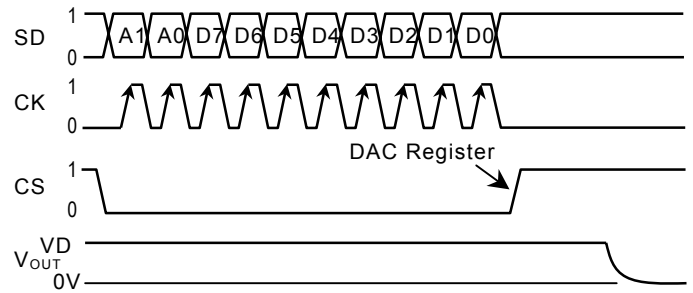
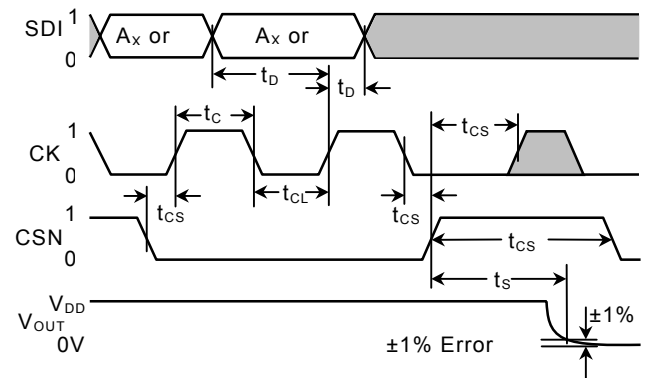

Figure 2: Timing Diagram
Figure 3: Detailed Timing Diagram
Programming of the AS150x is done via the 3 wire serial interface. The three input signals are serial data input (SDI), clock(CK) and chip select (CS). A programming sequence consists of 10-bit, where the last eight bit contain the code word for the resistor value. The first two bits A1 and A0 have to be low(see Table). The data is shifted into the internal 10 Bit register with the rising edge of the CK signal. With the rising edge of the CSN signal the data becomes valid and the resistance is updated (see figure 2). A detailed block diagram is shown in figure 3.